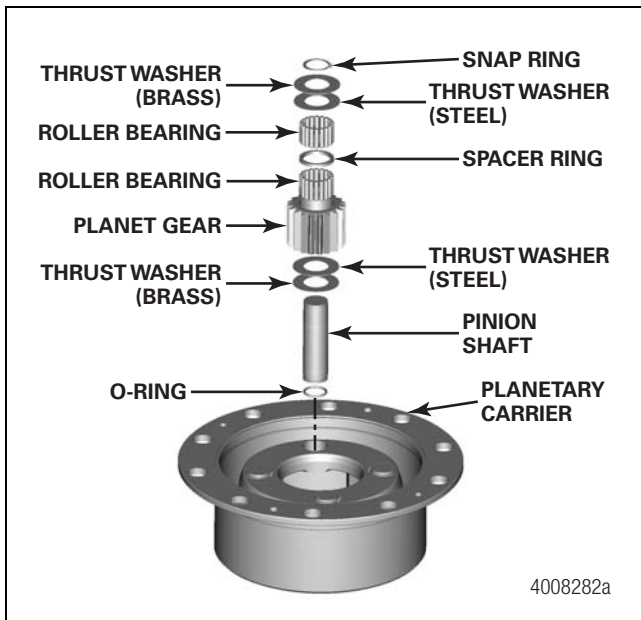

Figure 13.11
2. Install the planet gears and thrust washers into the planetary carrier. Align the gears with the planetary pinion shaft bores and verify that the washers are positioned correctly against the planetary carrier. Figure 13.11.